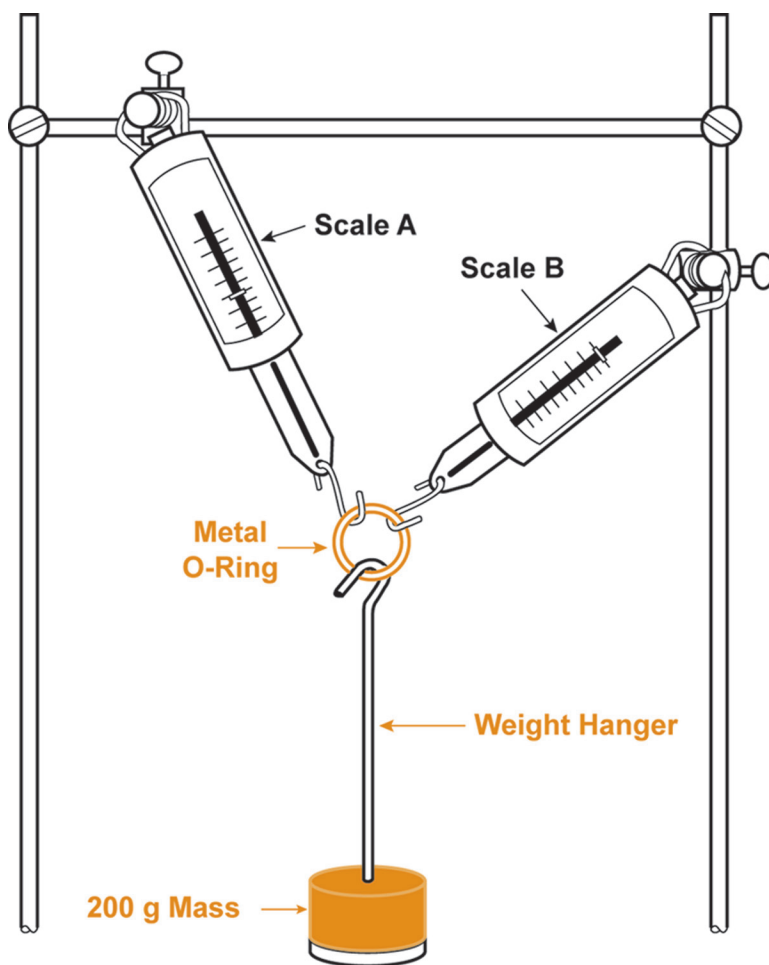

Figure 4
- 5. Attach the S-hook from each scale to the 1" O-ring. Then suspend the 50-gram weight hanger from the ring. See Figure 4.